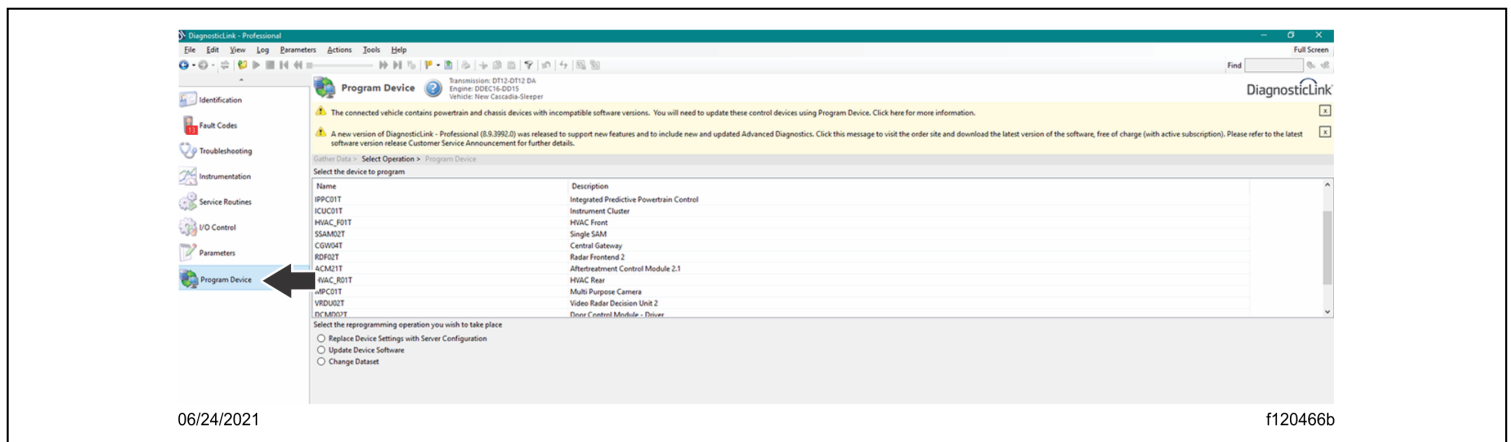

Fig. 1, Updating DiagnosticLink
4. Ensure that DiagnosticLink is updated to the latest version (8.14 at time of publication). To update DiagnosticLink, select 'Update' from the dropdown menu under 'Tools.' Select 'Program Device.' See Fig. 1 .